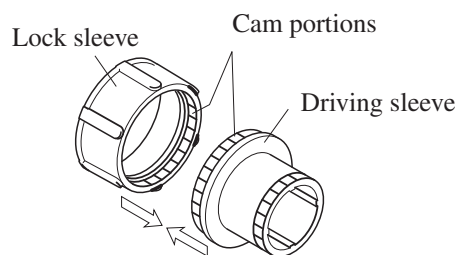

Fig. 23
- (1) Engage the cam portions of driving sleeve and lock sleeve as illustrated in Fig. 23.